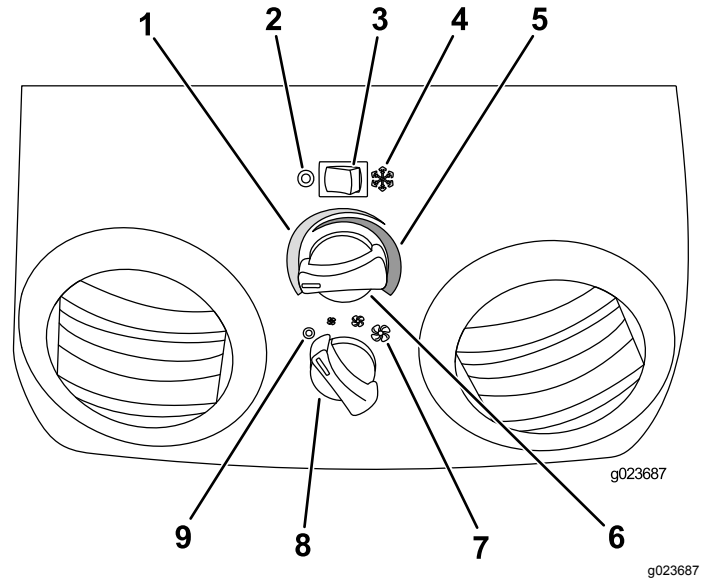

Figure 53
1. Push the AIR-CONDITIONING switch to the right to turn the air conditioning to the ON position (Figure 53).
3. Turn the TEMPERATURE knob to the left until you reach the desired temperature (Figure 53).
4. Turn the FAN-SPEED knob to either low, medium, or high (Figure 53).
1. Push the AIR-CONDITIONING switch to the left to turn the air conditioning to the OFF position (Figure 53).
3. Turn the TEMPERATURE knob to the right until you reach the desired temperature (Figure 53).